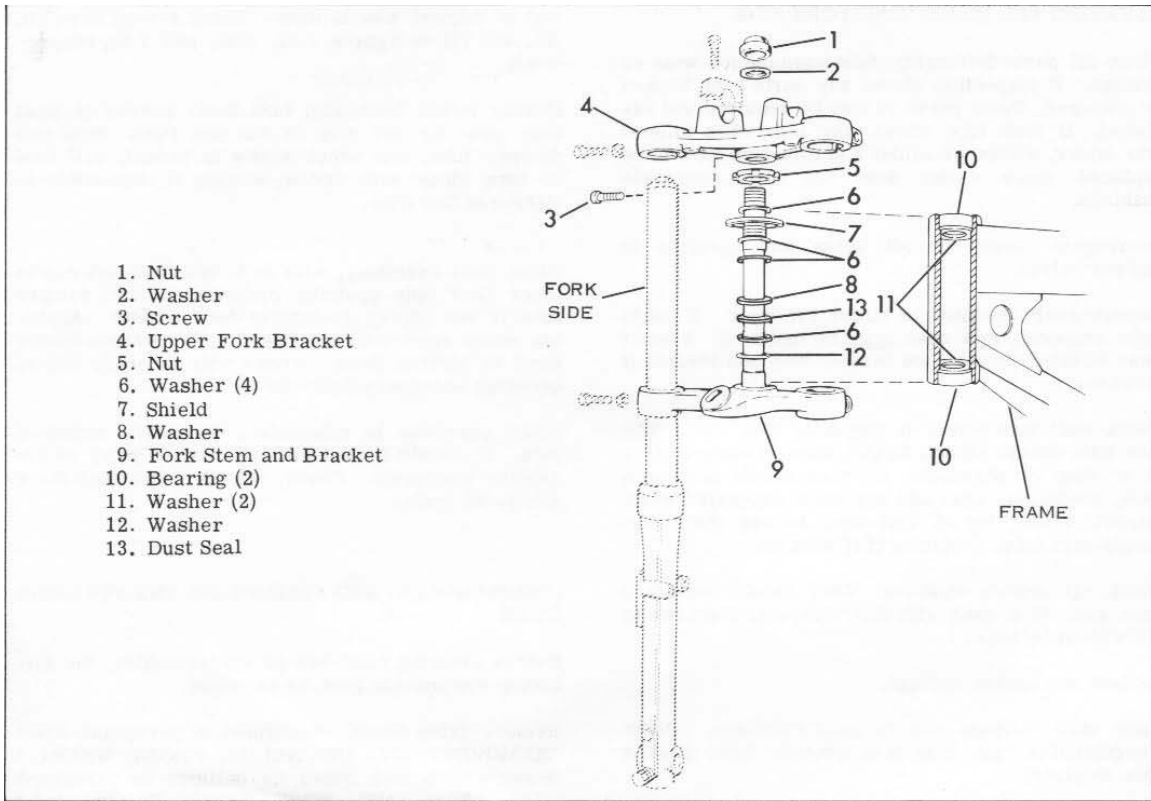

Figure 2.26. Steering Head - Exploded View
Remove front wheel as outlined in paragraph titled "REMOVING AND INSTALLING FRONT WHEEL." Remove both fork sides as outlined in paragraph titled "REMOVING FORK SIDE." Remove front fender by removing four sets of hardware attaching it to fork stem and bracket (9), Figure 2.26. Remove headlamp assembly from bracket (9) by removing attaching nut. Remove instrument mounting bracket from upper fork bracket (4) by removing two sets of attaching hardware. Remove handlebar as outlined in paragraph titled "REMOVING AND REPLACING HANDLEBAR."
Referring to Figure 2.26, remove nut (1), along with washer (2), from threaded end of fork stem and bracket (9). Loosen screw (3) and slide off upper fork bracket (4). Thread nut (5) off stem. Remove washer (6), shield (7) and washer (8) from stem. Using a rawhide mallet, carefully tap stem (9) out of head, taking care not to damage bearings (10). When stem is freed, slip off washer (12). Using a bearing puller, pull bearings (10) only if inspection reveals they must be replaced.